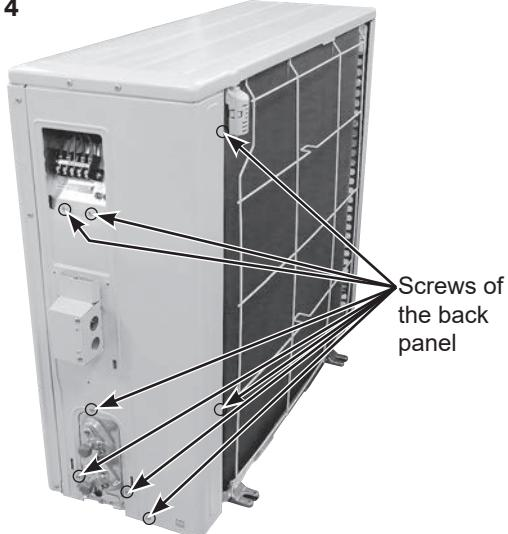

Figure 1
<p>1. Removing the cabinet</p> <p>(1) Remove the screws fixing the service panel. (2) Pull down the service panel and remove it. (3) Remove the screws fixing the conduit cover. (Photo 4) (4) Remove the conduit cover. (5) Remove the screw fixing the conduit plate. (Photo 5) (6) Remove the conduit plate. (7) Disconnect the power supply wire and indoor/outdoor connecting wire. (8) Remove the screws fixing the top panel. (9) Remove the top panel. (10) Remove the screws fixing the cabinet. (11) Remove the cabinet. (12) Remove the screws fixing the back panel. (Photo 5, 6) (13) Remove the back panel.</p> <p>NOTE: If the red labels have been removed during the operation, put them back in the original position after the operation. Red labels indicate the use of flammable refrigerants. (Figure 1)</p>	<p>Photo 1</p>
<p>Photo 2</p>	<p>Photo 3</p> <p>Figure 1</p>
<p>1. Removing the cabinet</p> <p>(1) Remove the screws of the service panel. (2) Remove the screws of the top panel. (3) Remove the screw of the valve cover. (4) Remove the service panel. (5) Remove the top panel. (6) Remove the valve cover. (7) Remove the screws fixing the conduit cover. (Photo 5) (8) Remove the conduit cover. (9) Remove the screw fixing the conduit plate. (Photo 6) (10) Remove the conduit plate. (11) Disconnect the power supply cord and indoor/outdoor connecting wire. (12) Remove the screws of the cabinet. (13) Remove the cabinet. (14) Remove the screws of the back panel. (15) Remove the back panel.</p> <p>NOTE: If the red labels have been removed during the operation, put them back in the original position after the operation. Red labels indicate the use of flammable refrigerants. (Figure 1)</p>	 <p>Photo 1</p> <p>Screws of the top panel Screws of the cabinet Screws of the cabinet</p>  <p>Photo 2</p> <p>Screws of the top panel Screws of the cabinet Screws of the service panel Screw of the valve cover</p>